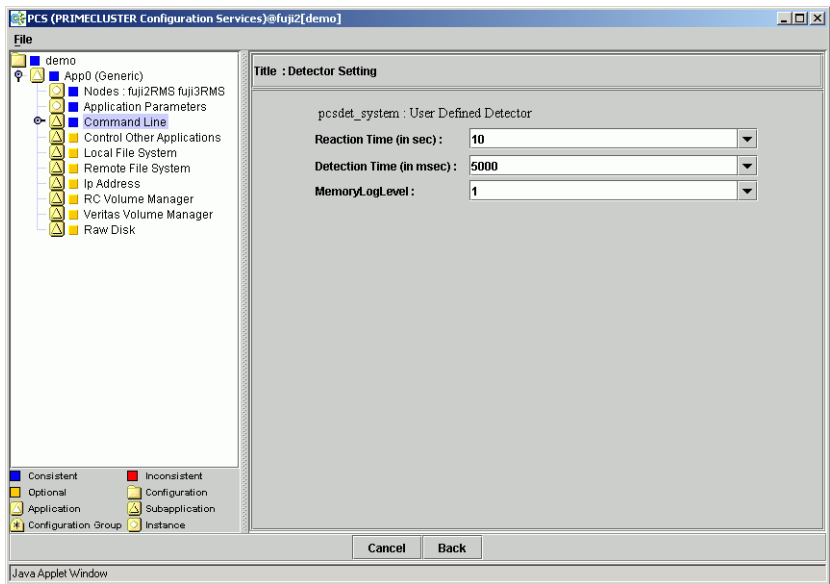

Figure 12: PCS Detector Details menu for pcsdet_system
- Click the radio button of the detector you wish to modify, and you will advance to a window similar to the *pcsdet_system* setting shown in Figure 12.